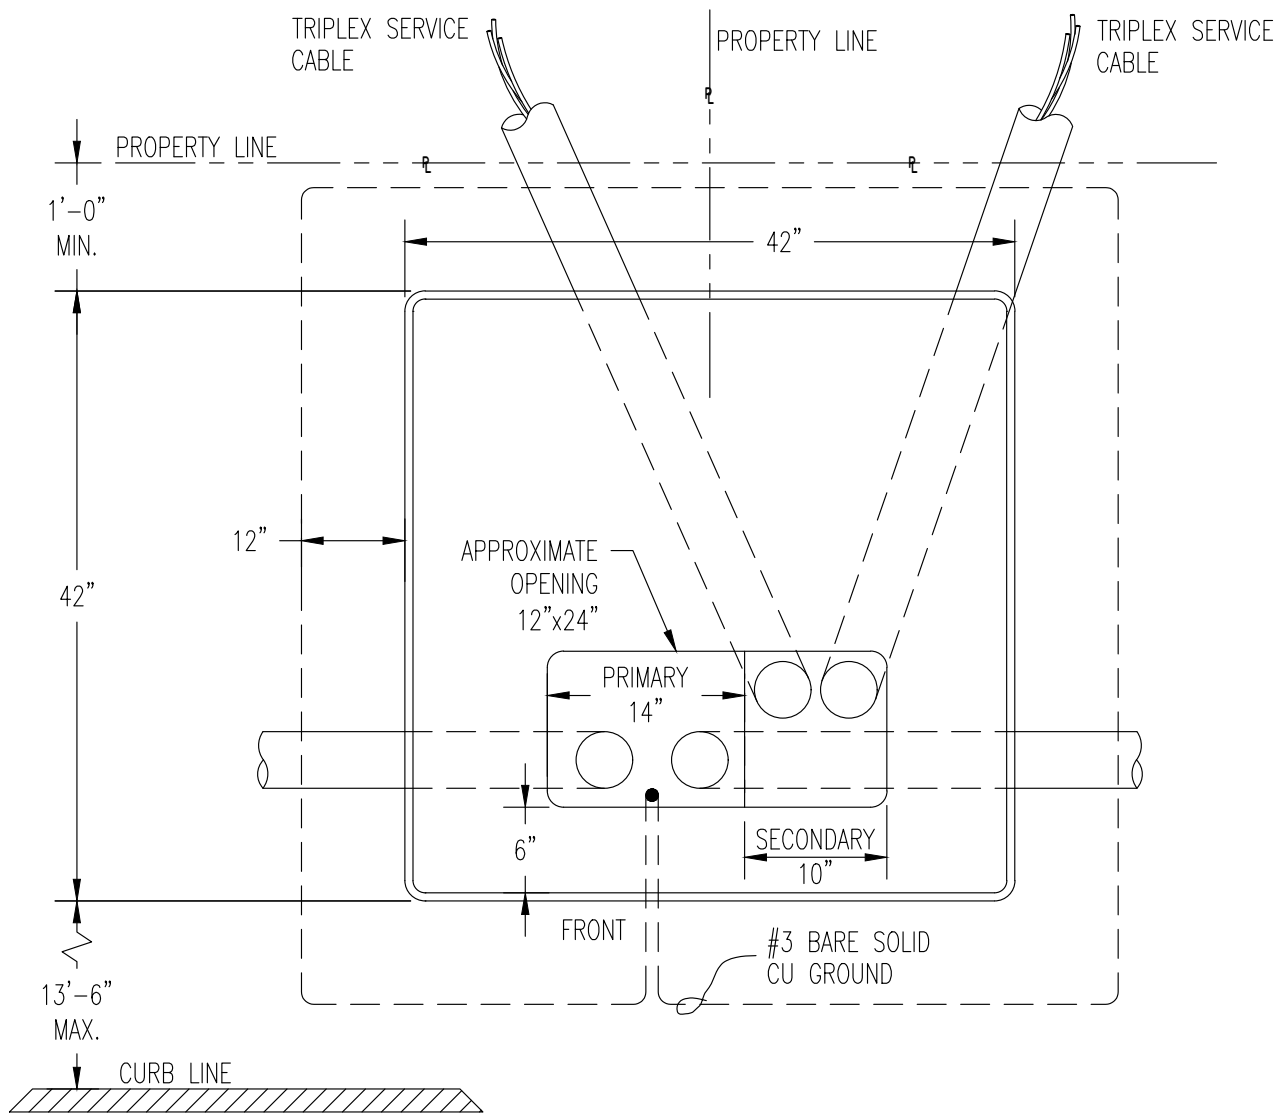

FIGURE 10.
- 4.1.7 Conduit stubs for transformers should be oriented according to transformer pad opening as shown in Figure 10.